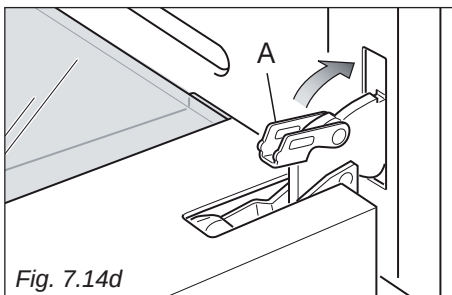

Fig. 7.14d
- Unlock the oven door by opening it completely and closing the lever "A" on the left and right hinges (fig. 7.14d).